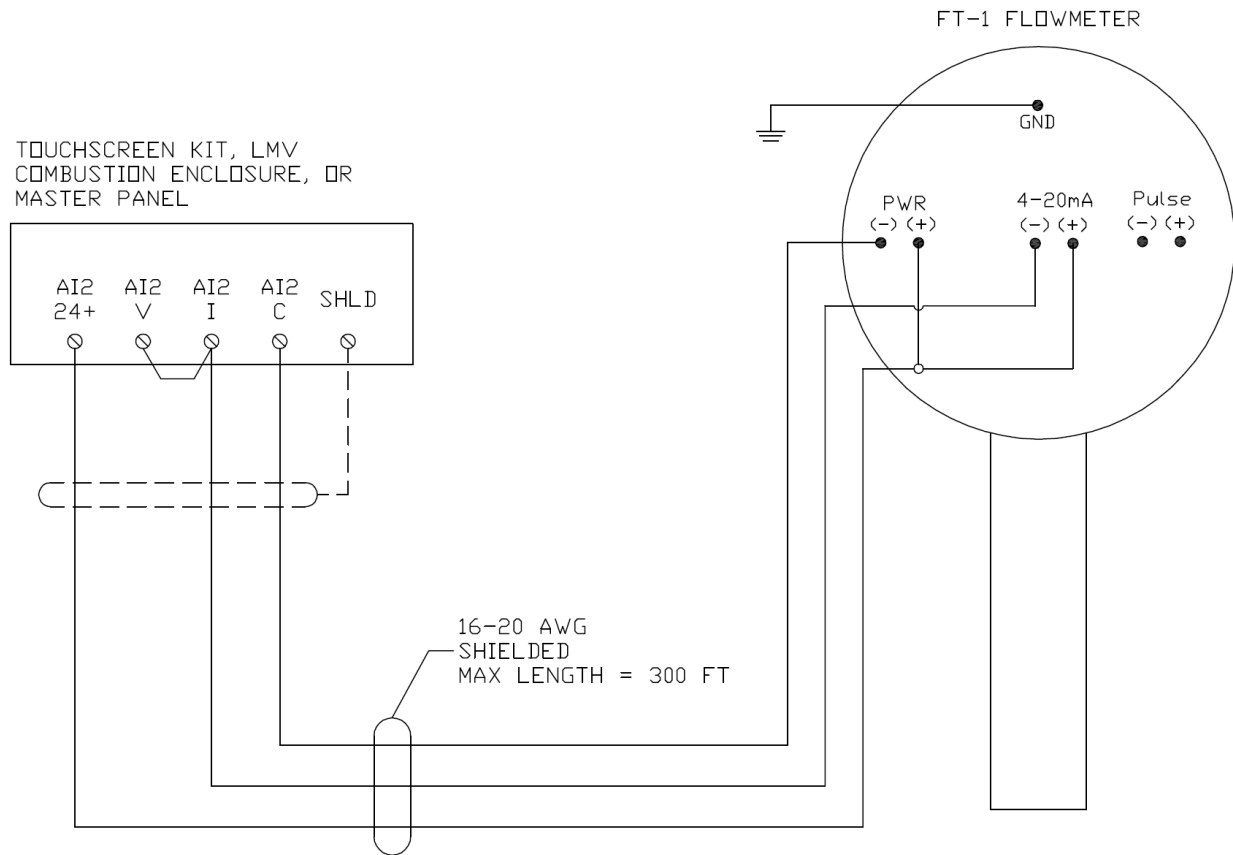

Figure 11: Electrical Connections between an FMP... Flow Meter and a TS... Touchscreen Kit, Combustion Enclosure, or Master Panel
- Combustion control panel using the 4-20mA output – Figure 11